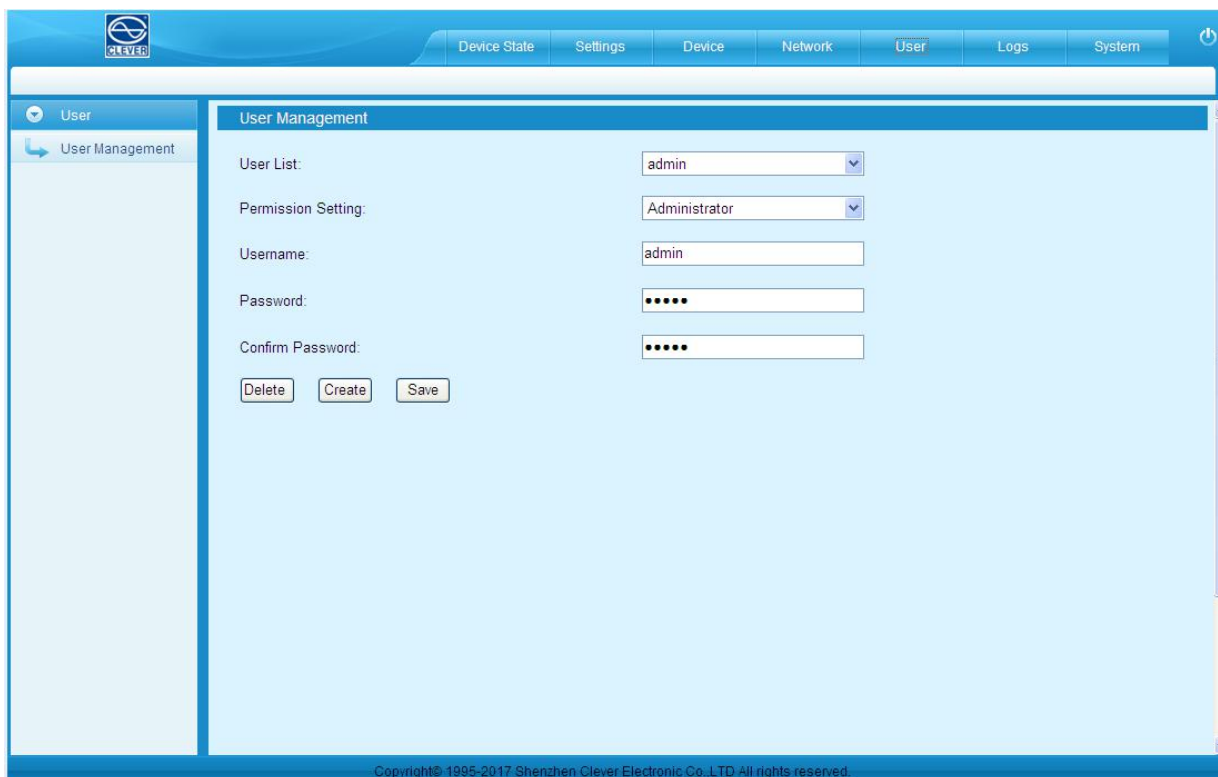

Figure 1-14
- Permission settings: Click permission setting and select the Administrator or normal user from the drop-down list, then click Save button. See figure 1-14